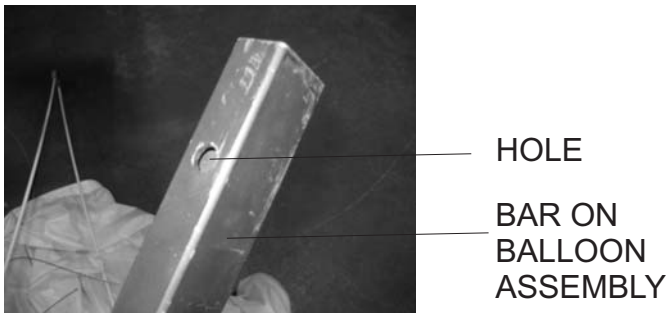

Figure 5. Location of Hole on the Bar
4. Locate the hole close to the top on the side of the bar of the balloon assembly. See Figure 5.